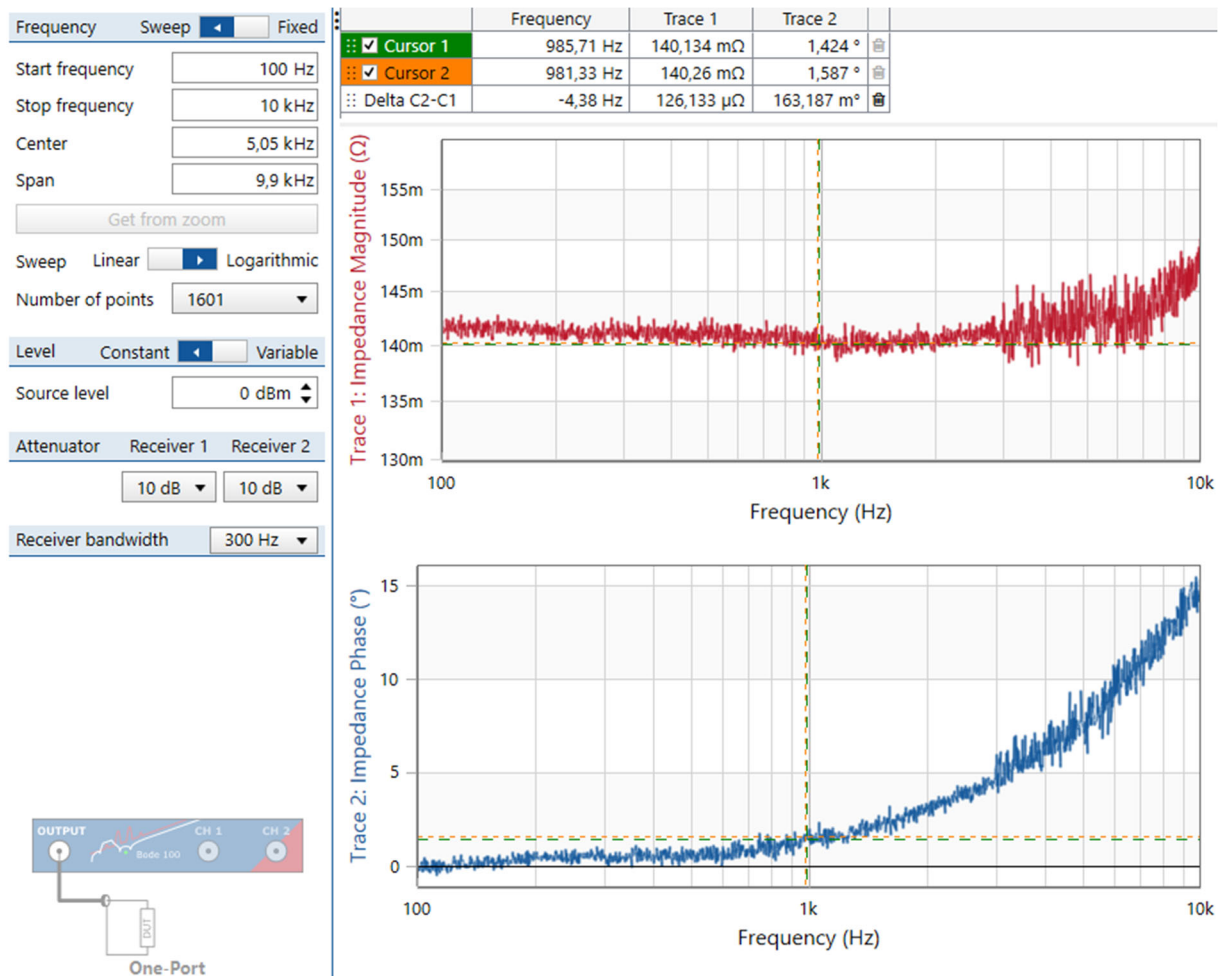

Fig. 3.3.2(b): One-Port Impedance Measurement with Bode100 of a 125cm BNC-to-pin cable.
According to theory, both cursor 1 and 2 should be at the same frequency now. Normally this is not the case. Repeat the measurement detailed above with 1601 points, create your own Fig. 3.3.2(a) with your DCDCbuck board and copy it into your documentation.
The measurement shown in Fig. 3.3.2(a) includes the cable resistors. To find out the cable impedance, connect both ends of your measurement cable to ground and repeat the measurement of Fig. 3.3.2(a).
- the phase characteristics of the cable, that explains the cursor 2 at phase 0 in Fig. 3.3.2(a) is a little bit left from cursor 1 at impedance magnitude minimum.